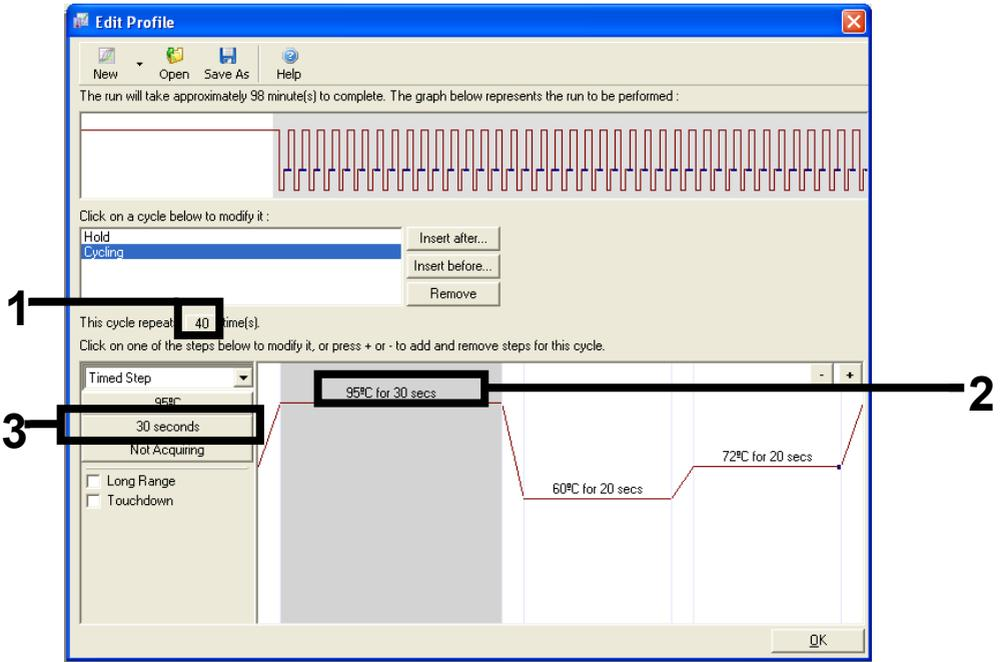

Figure 14. Cycling step at 95°C. 1 = "Cycle repeats" box, 2 = "step one temperature" setting, 3 = step one time setting.
- Change the number of cycle repeats to 40. Select the first step and set to "95°C for 30 secs" (Figure 14).